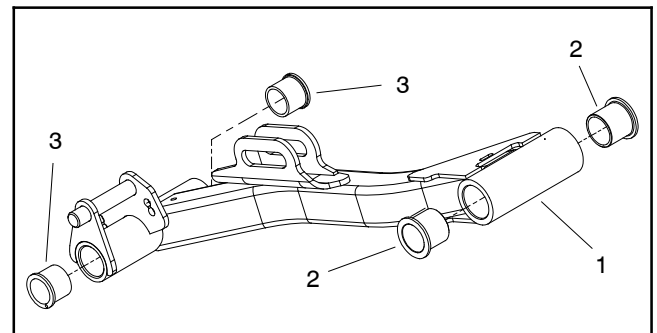

Figure 20
8. Inspect bushings in lift arm and pivot yoke for wear or damage. If necessary, replace bushings (Figs. 20 and 21).